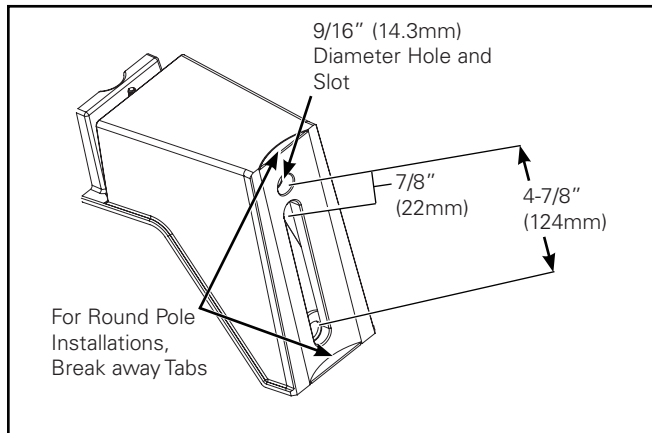
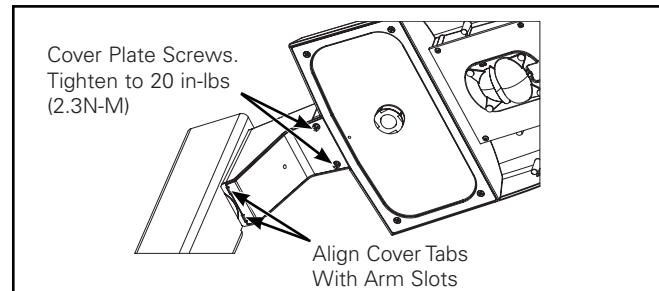

Figure 1.
Figure 5.
Pole Mount Arm (Figure 1. - Figure 5.)
1. Pole mounting arm is designed for a square or round pole. Round pole installation will require the mounting arm break away tabs to be removed. Grab break away tab with pliers and break-away the tab. (Figure 1.)
- Note:** Ensure the luminaire supply leads do not get pinched between cover and mounting arm. (Figure 5.)